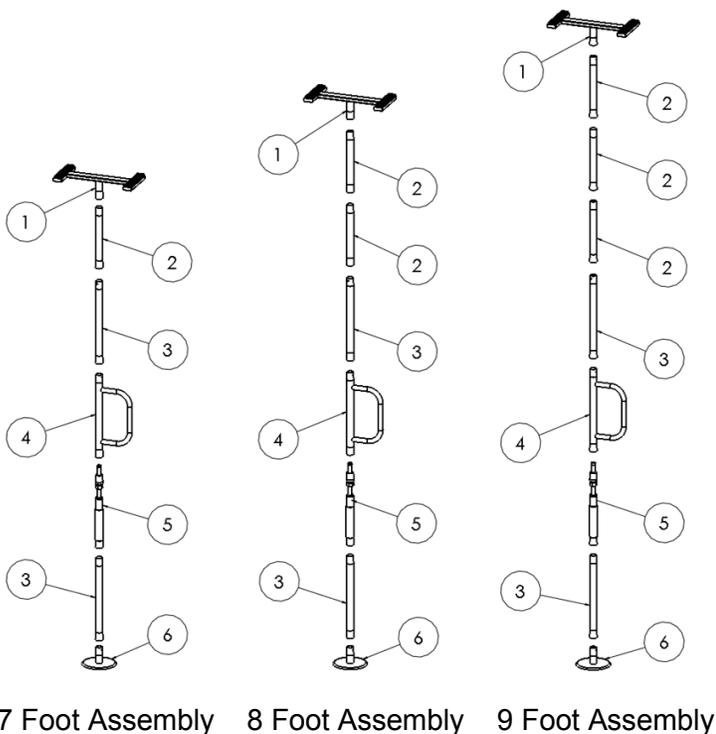

FIGURE 2
2. Figure 2 shows the parts that will be used for 7 foot, 8 foot, or 9 foot ceilings. Notice that the only difference between the 7 foot, 8 foot, or 9 foot assemblies is the quantity of part number 2 being used.